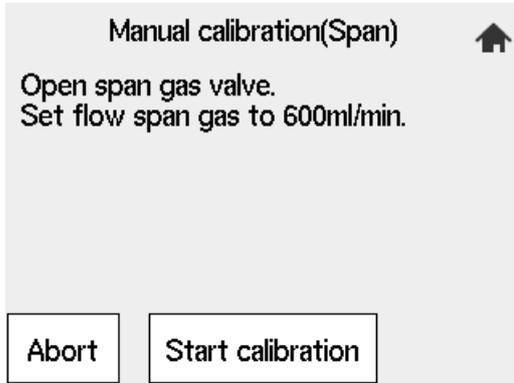

Figure 7.17 Span gas Flow Display
- (3) After the message of Figure 7.17 appears, feed the span gas to follow the message. Open the span gas flow setting valve and adjust the flow rate to The Manual calibration display shown in Figure 7.29 then appears. Check that the oxygen concentration for the span gas in this display coincides with the oxygen concentration in the calibration gas actually used. If the check results are assumed to be OK, select "Next" in the Manual calibration display.